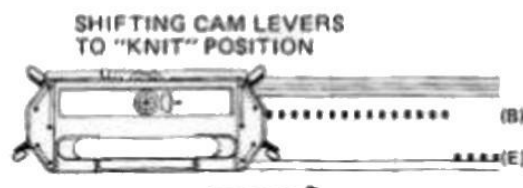

Fig.61 RETURN CAM LEVERS TO "POSITION 2"
- Push back the shifting cam levers to "KNIT" position and also the return cam levers to "Position 2" on each side. (Fig.61)
- At the opposite end to the carriage, bring forward into position (E) from position (B) the required number of needles. (Fig.61)